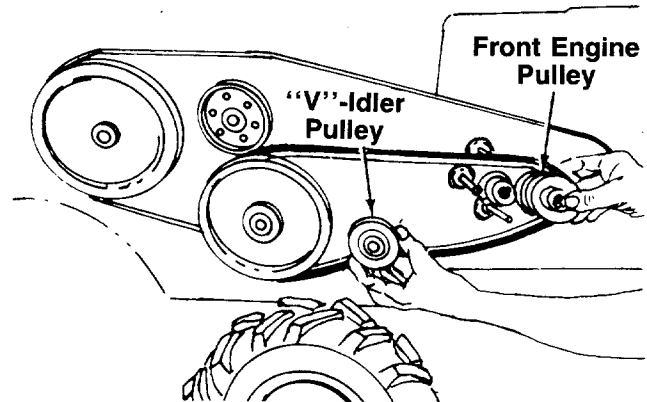

FIGURE 24.
5. Slide the front engine pulley and "V"-idler pulley out as shown in figure 24.